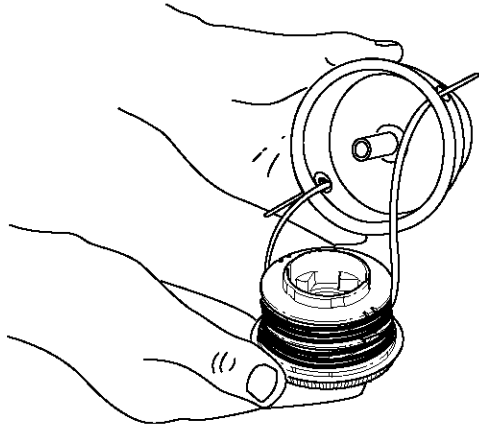

Fig. 27
3. Insert the ends of the prewound inner reel line into the outer spool eyelets (Fig. 27). Push the new inner reel, arrow side up, into the outer spool.